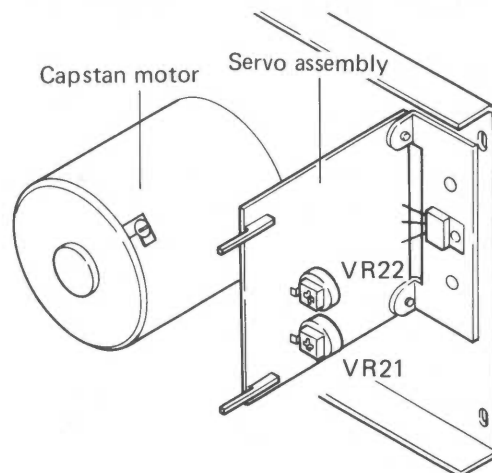

Fig. 6-8 Tape speed adjustment
2. Connect a frequency counter to the OUTPUT terminals, and start up the unit in PLAY mode. If the frequency counter fails to register 3,000Hz, adjust VR21 in the servo assembly as shown in Fig. 6-8.
3. Next set the SPEED switch to 9.5 (depressed position), and adjust VR22 (also shown in Fig. 6-8) to obtain a frequency counter reading of 1,500Hz.